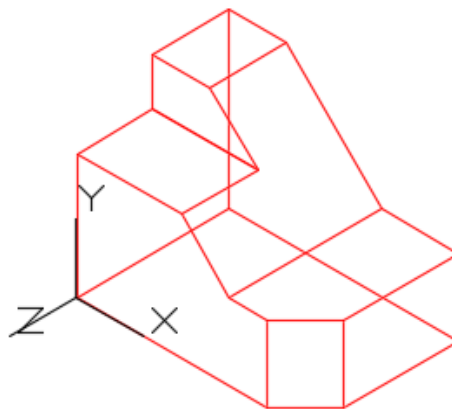

Figure Step 7
Step 7 The wireframe model should now appear as shown in the figure. Notice how the XY axis lies on the front plane of the model. (Figure Step 7)